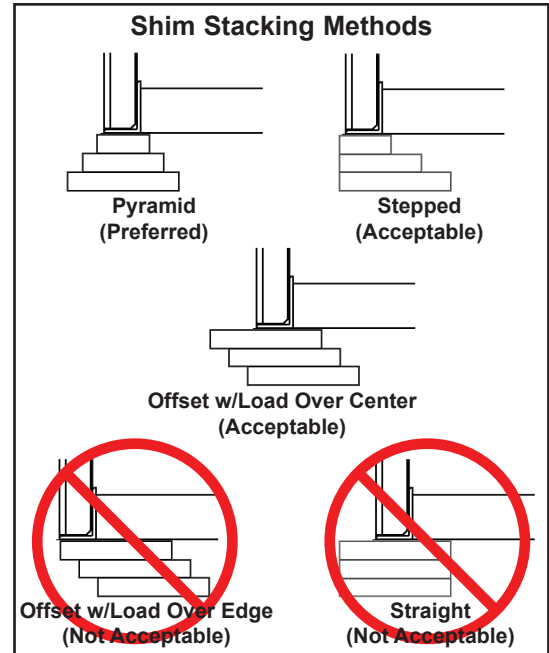

Figure 13
18. Install shims at locations **(B)** using an appropriate shimming method (see Figure 13). Both Hoist Cylinder trunnions must be solidly shimmed the entire length of the trunnion. Make sure the trunnions are level from side-to-side as well as from front-to-back.